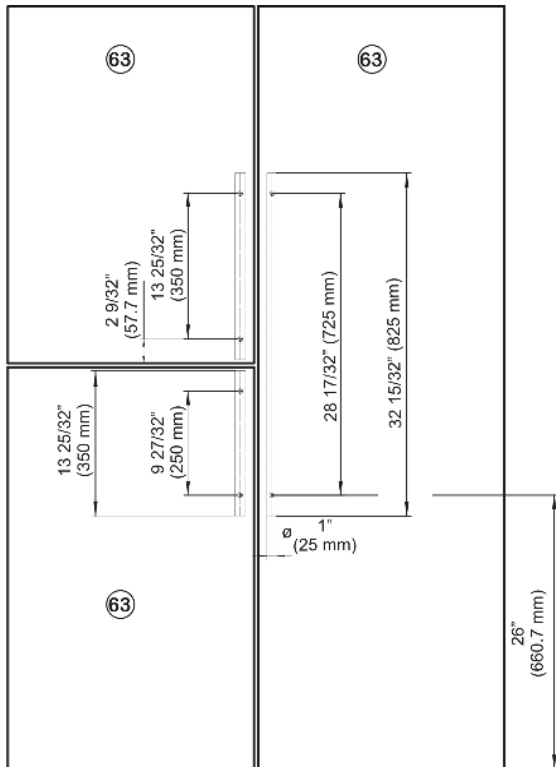

Fig. 56 Handles from the manufacturer  $\varnothing$  1" (25mm)
► Fit handles to the overlay panel Fig. 56 (63) as shown in the diagram.